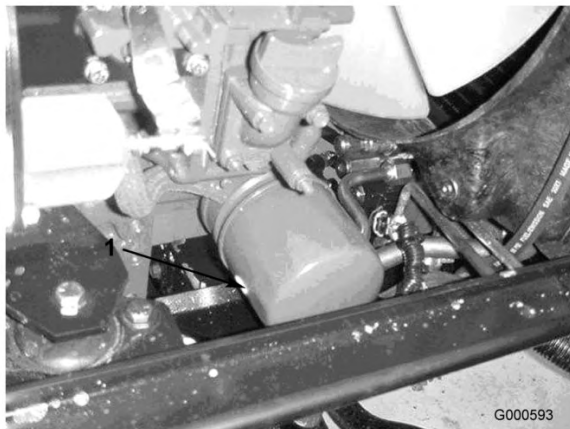

Figure 36
2. Remove the oil filter (Figure 36). Apply a light coat of clean oil to the new filter seal before screwing it on. Do not overtighten.